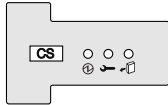

FIGURE B-9 Centerplane Support Label
The centerplane support (CS) label, shown in FIGURE B-9, is located at the center bracket for the two (2) centerplane support carrier panels on the front and rear of the system.